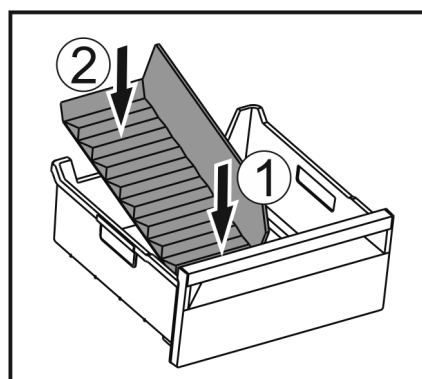

Fig. 238
- Insert the front part of the ice compartment divider. Fig. 238 (1)
- Lower the rear part of the ice compartment divider to the drawer bottom. Fig. 238 (2)